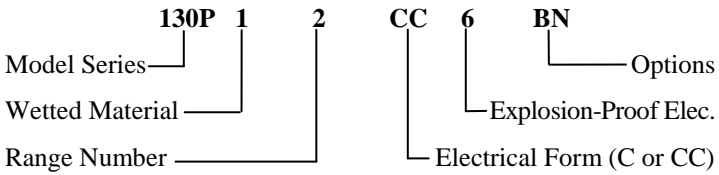

Figure 3. Part Number Breakdown
The part number contains information about which configurations and options are included in your Adjustable Pressure Switch. To determine this, compare the part number of your unit with Figure 3 on the next page, and the information in the following tables.
* See Figure 3 on page 11 for the part number breakdown